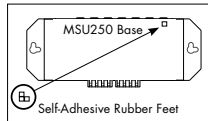

Figure 2
- 1) Table-top (on the floor or shelf behind the equipment (Figure 2)*